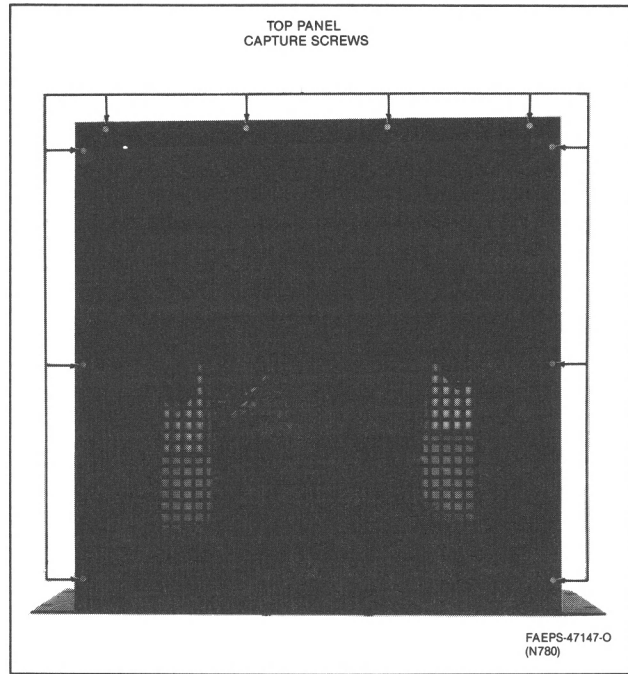

Figure 2. RDU Power Supply Top Panel Capture Screws
Step 2. Refer to Figure 2. Slide out RDU power supply and unscrew the ten capture screws on the top panel. Remove top panel.